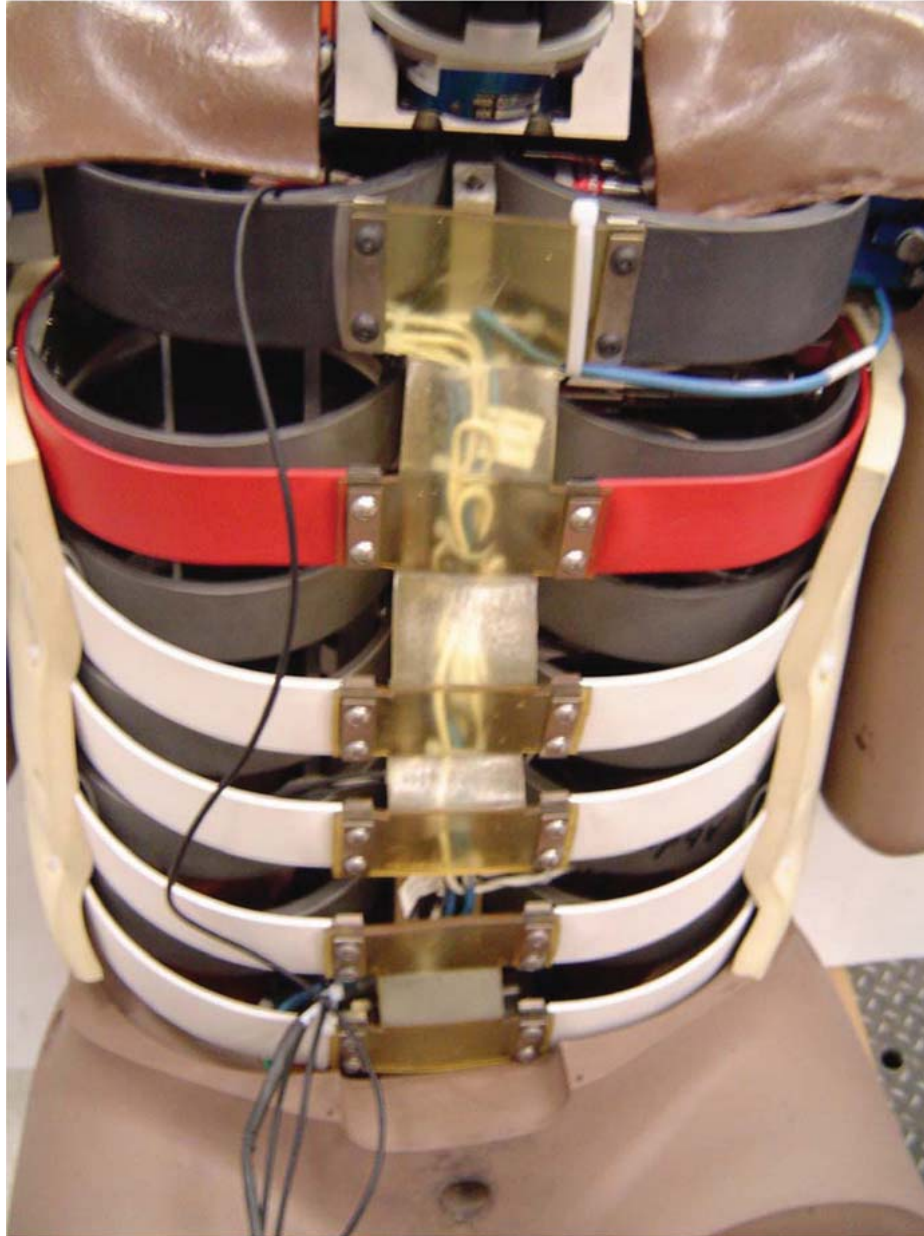

Figure G.14 — WorldSID final dummy wiring
- 11) Route the shoulder load cell cable as shown in Figure G.13 and tie it to the sternum with a cable tie. The finished wiring looks as shown in Figure G.14.